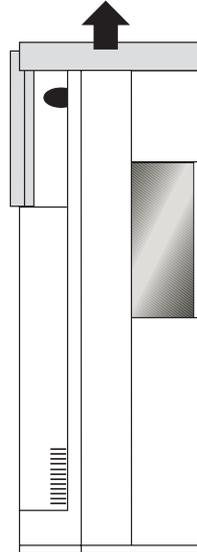

Figure 26
- Pull the wall/ceiling bracket (marked grey in figure 26) upwards in the direction of the arrow and off the base device of the PIR motion detector.